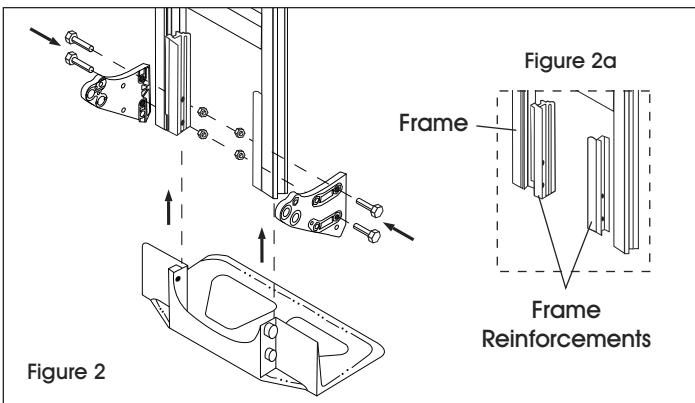

Figure 2
1. Position frame reinforcements against bottom frame rail. (See Figure 2a) Slide nose plate into channel on frame reinforcement, keeping bolt holes aligned. (See Figure 2)
2. Align axle support with outside rail of frame. (See Figure 2)
3. Insert four 8 mm bolts through the axle supports, frame, frame reinforcements and nose plate. Secure with locknuts but DO NOT tighten. (See Figure 2)